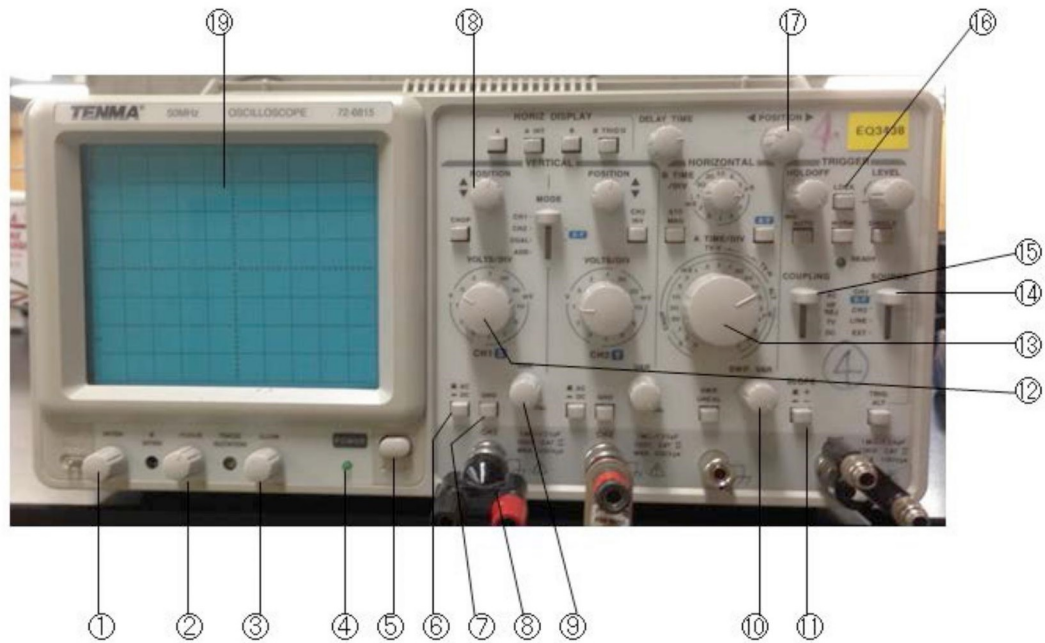

Figure B.7: Photograph of one CRO model
To use the oscilloscope you must first plug it into an outlet, turn it on, and then plug in your positive and negative electrodes into the connection labeled Channel A (number 8 in Figure B.7). You must then adjust the position (18), volts/div (12), and time/div (13) knobs until you see a signal on the screen (19). The position knob will adjust the vertical position of the signal. The volts/div and time/div on the other hand, will modify the value in volts and time and in y and x respectively of each of the squares or divisions. Explained in another